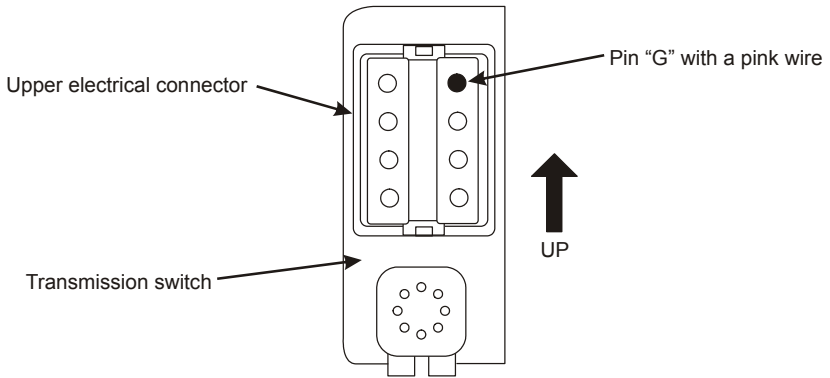

Figure 4.2
- Route the long blue wire the driver's side of the transmission and solder it to the pink wire labeled "L17E" at pin "G" of the connector at the transmission (Figure 4.2).